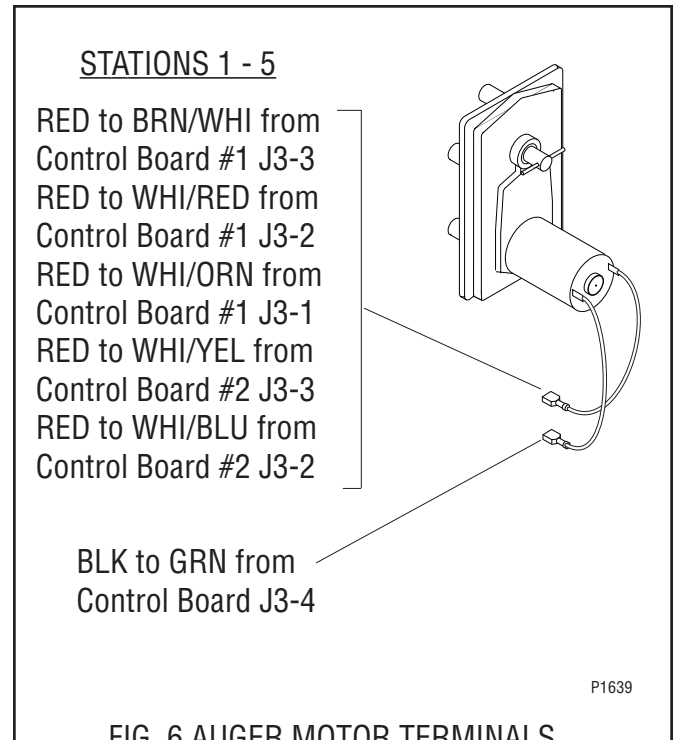

FIG. 6 AUGER MOTOR TERMINALS
4. Disconnect the wires from the auger motor (16) to be removed.
5. Remove auger motor mounting bracket (15), auger motor (16) and dust seal (17) as an assembly.
6. Remove dust seal (17) from auger motor (16).
9. Using four #8-32 screws install new auger motor (16) on mounting bracket (15).
10. Install dust seal (17) on auger motor shaft.
11. Using four #8-32 locking screws install auger motor, dust seal and mounting bracket to the rear of the auger motor mounting panel (14)
13. Install hopper support plate (19) and all hopper assemblies (20).
14. Refer to Fig. 6 when reconnecting wires.